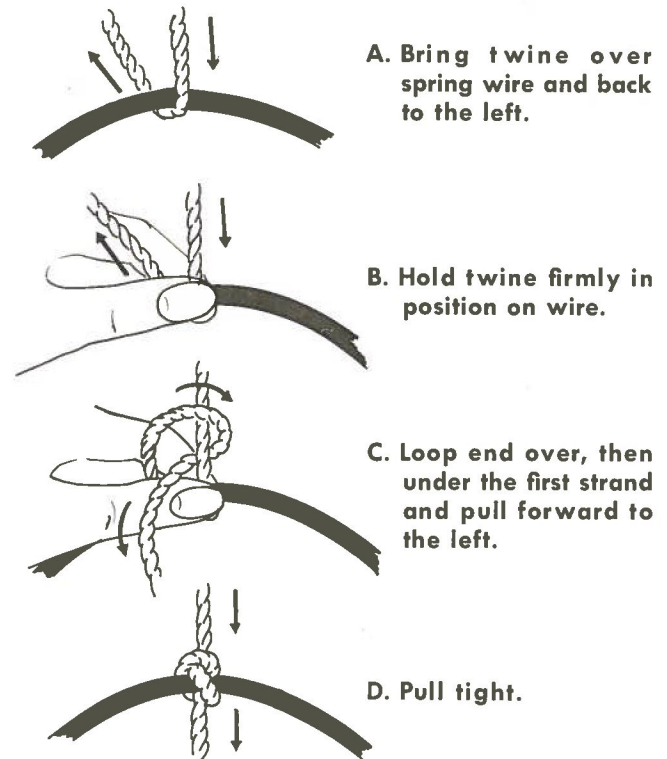
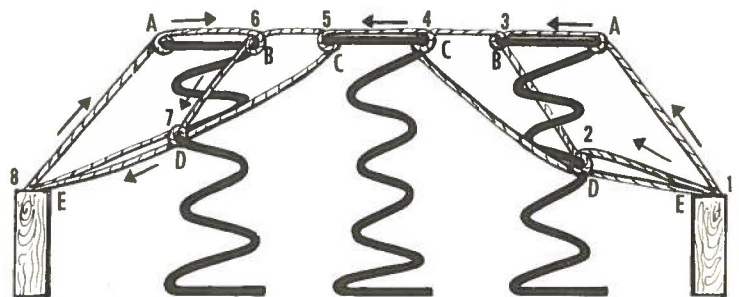
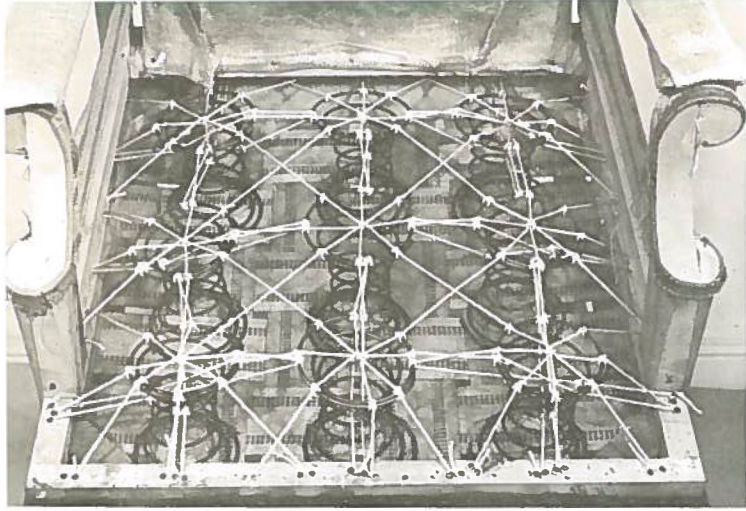

Fig. 16—Knot used to tie springs.
Fig. 17—Return tie method for three springs in a row.
Fig. 18—Springs tied.
*Flat Top Seat*—We will first show how to tie springs on the wing chair which has a flat top seat with a hard stuffed front edge. You tie each row of springs exactly through the center, first from back to front, then from side to side. Then tie them in both directions diagonally. That means that each spring will be tied in 8 places. (Fig. 18) In cheap construction, diagonal ties are often omitted. When redoing a chair of that kind always add the diagonal tie.
With the long end of twine, tie across the row of springs at points 2, 3, 4, 5, 6, and 7 as in Fig. 17. Use the knot shown in Fig. 16. Press the springs down to
the correct height as they are tied. The height and spacing of spring ties will determine the shape of the seat. For a chair with a removable cushion you usually tie springs down slightly lower than the lower arm and back stretchers. All springs should stand vertical when tied. The top of the seat should be flat, sloping slightly down to the back. Next fasten the twine to the front seat rail (Point 8, Fig. 17). Fasten as shown in Fig. 15B. Bring the
Use the remaining twine to make return ties at both front and back at points A, B, C, and D in Fig. 17. At E, fasten twine to frame by looping it around a tack. Tie other rows of springs from back to front the same way. Repeat from side to side (Fig. 18).
Next tie springs in *diagonal* rows. Cut a length of twine for diagonal ties, only twice the distance to be covered, as you will not make a return tie. Knot the twine at the top of each spring on opposite sides. (Fig. 18). The last time across each intersection tie together all crossing cords. This keeps cords from rubbing and cutting.